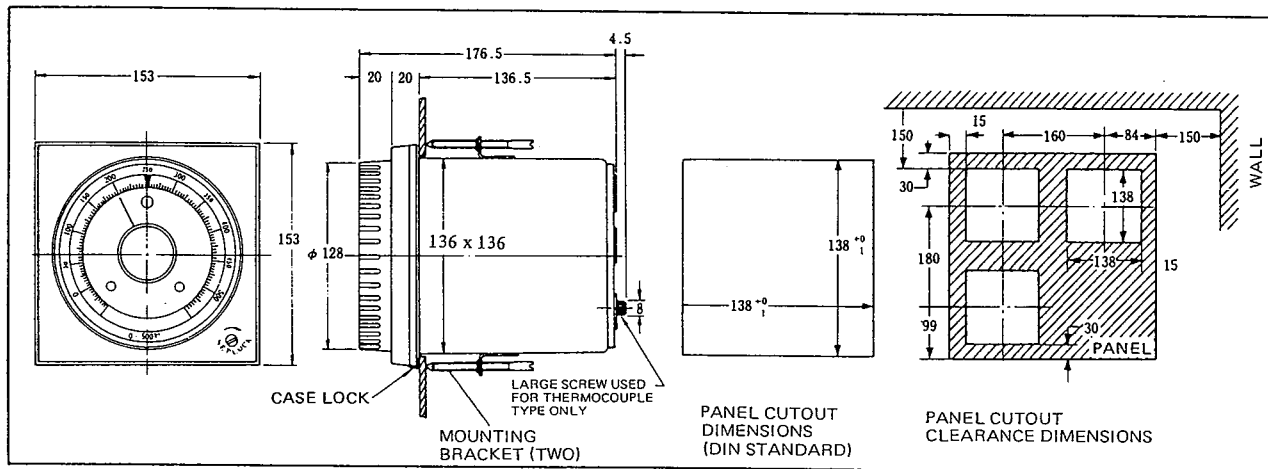

Fig. 1 External dimensions, panel cutout and panel cutout clearance dimensions
2. Installation Method (see Fig. 1)